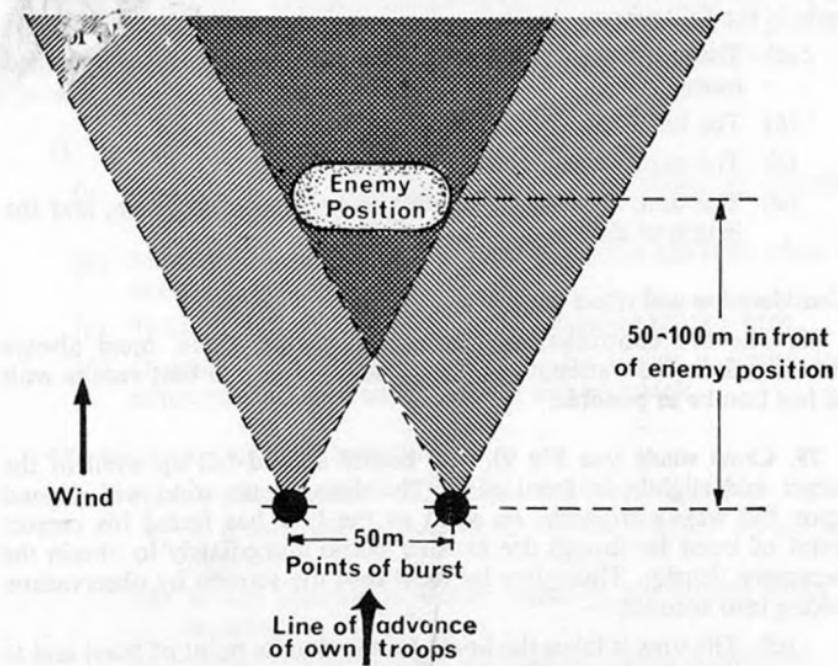

Fig 10.—Use of smoke in a following wind
80. **Following and head winds** (*see Fig 10*). When it is necessary to lay a screen in a following wind, at least two points of burst and therefore more bombs will be required. The distances given are a guide only; they will vary according to the wind's strength and direction.